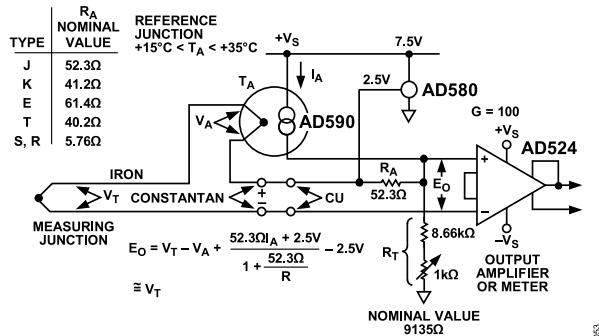

Figure 53. Cold Junction Compensation
Figure 53 shows a simple application in which the variation of the cold junction voltage of a Type J thermocouple-iron ± constantan is compensated for by a voltage developed in series by the temperature sensitive output current of an AD590 semiconductor temperature sensor.
5. For other ranges of ambient temperature, the equation in Figure 53 may be solved for the optimum values of R_T and R_A .